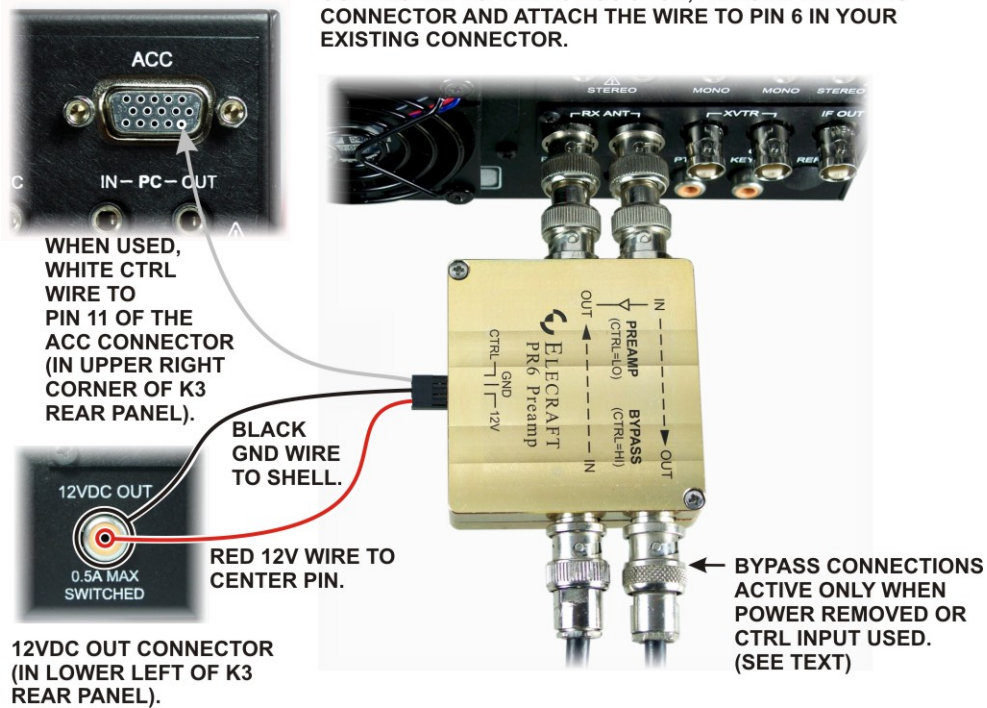

Figure 2. PR6 Mounted on Elecraft K3.
The BNC connector spacing matches the rear-panel RX ANT connectors so the PR6 may be attached to the K3 using a pair of standard male-male BNC connectors as shown in Figure 2. The connectors may be ordered from Elecraft: order part number R-BNC-MM. Two of these connectors are required. A prewired cable is supplied that connects to the K3 as follows:
- The Control (CTRL) input is optional (see below) when the DB-15 connector is attached to the ACC connector on the K3. The white CTRL wire is connected to the DIGOUT1 signal at pin 11 of the ACC jack on the K3 rear panel through the DB-15 connector (See Figure 2). If you already have a cable connected to the K3 ACC port for a transverter or band decoder, remove the DB-15 from the cable and add the wire to pin 11 of the existing connector.